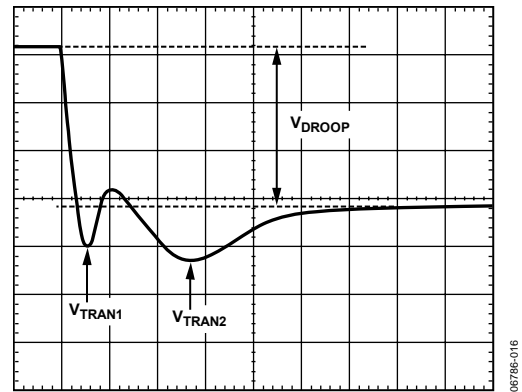

Figure 18. Transient Setting Waveform
18. With the dynamic load still set at the maximum step size, expand the scope time scale to either 2 $\mu\text{s}/\text{div}$ or 5 $\mu\text{s}/\text{div}$. The waveform can have two overshoots and one minor undershoot (see Figure 18). Here, V_{DROOP} is the final desired value.